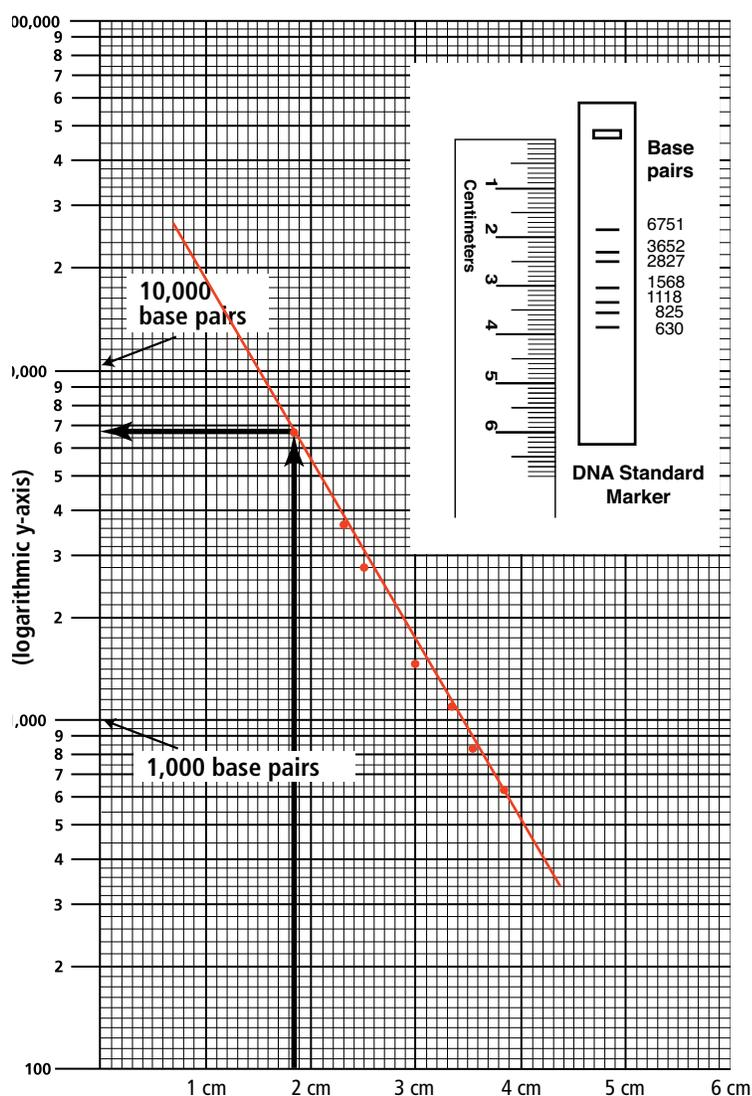

Figure 6: Semilog graph example
After all the points have been plotted, use a ruler or a straight edge to draw the best straight line possible through the points. The line should have approximately equal numbers of points scattered on each side of the line. It is okay if the line runs through some points (see Figure 6 for an example).
- From the point of intersection, draw a second line, this time horizontally, toward the y-axis. The value at which this line intersects the y-axis represents the approximate size of the fragment in base pairs (refer to Figure 6 for an example). Make note of this in your lab notebook.